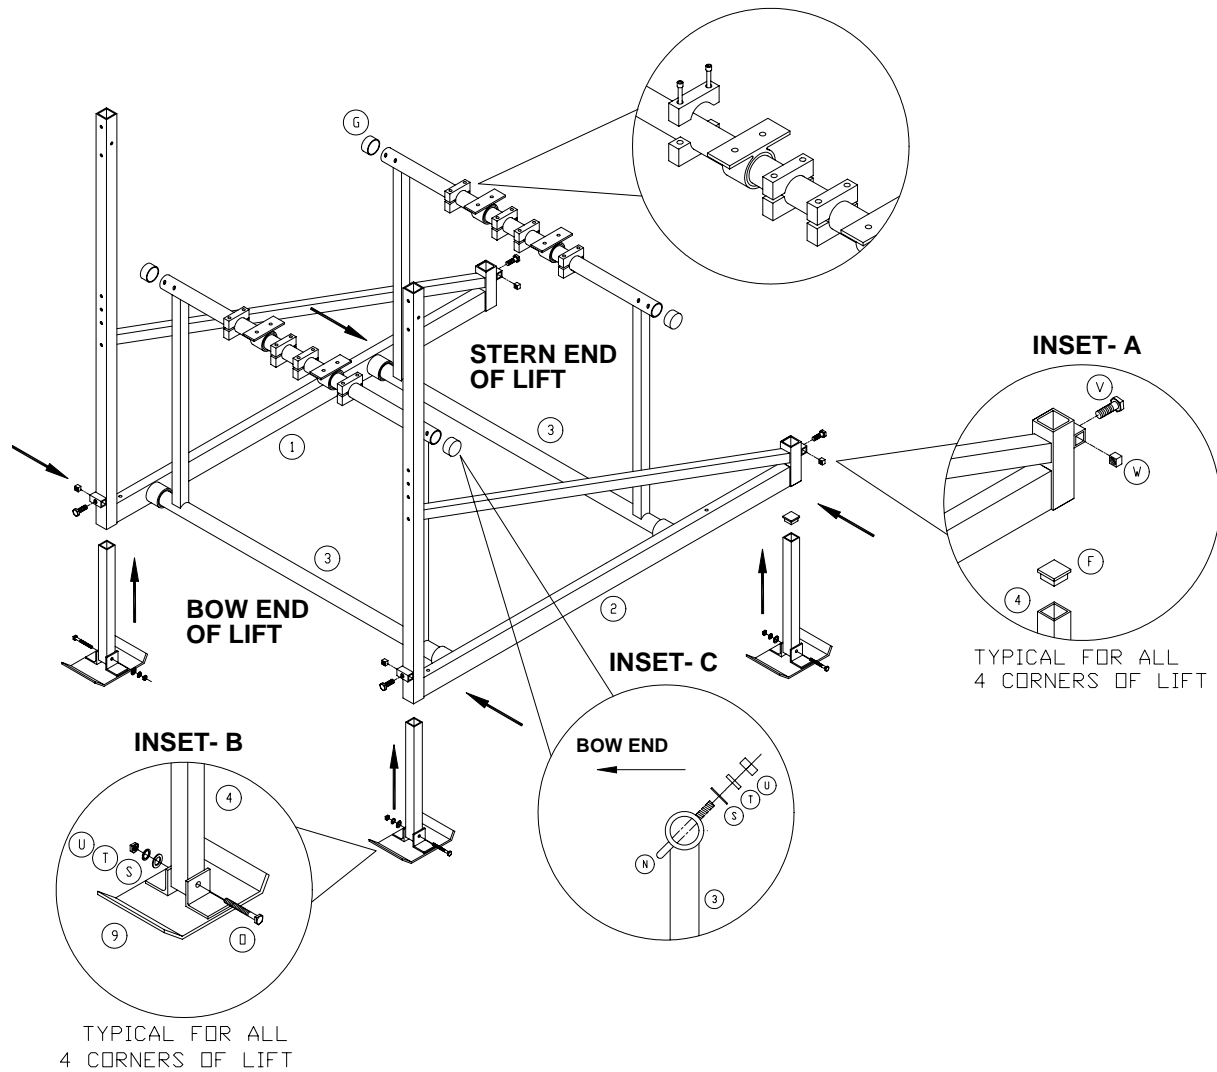

Figure 3-1
1. Refer to **Figure 3-1**. Attach foot plate to extension leg as shown in **Inset B**. Repeat procedure for all four foot plates.
1. Refer to **Figure 3-1**. Insert the four plastic caps into the ends of the lifting arms.
- Refer to **Figure 3-1**. Adjust extension legs to height required to keep lift level in its operating position. Tighten with lock screw at all four corners of lift as shown in **Inset A**.